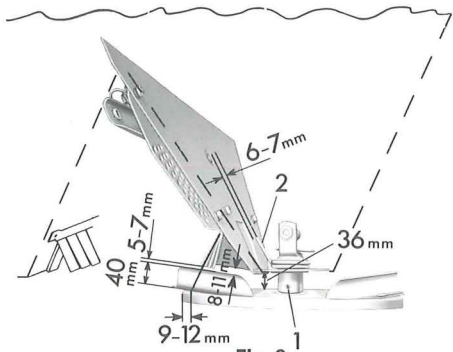

Fig. 8
- Check measurements for blades as illustrated in Fig. 8.
- Remove-expansion pin out of the stirrer bases (between hopper and spreading disc, Fig. 8/1).
The stirrer finger (Fig. 8/2) must have a clearance of 6-7 mm (1/4" to 9/32") and the stirrer base must not bind against the hopper bottom (see Fig. 8). If this does occur, the bottom of the hopper should be pushed downward slightly.